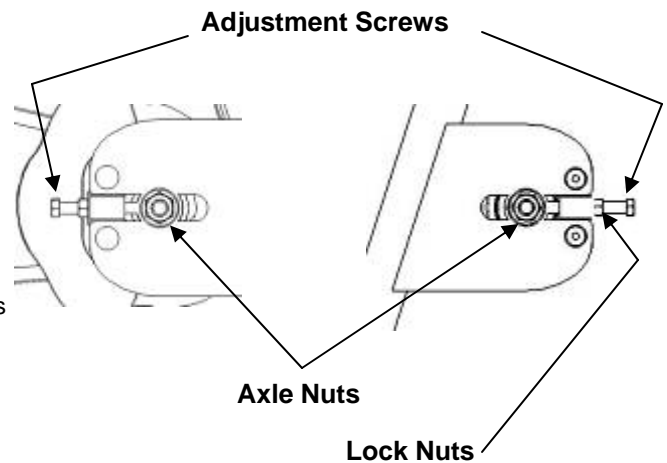

Figure 2
6. While adjusting the chain tension, work on both sides of the flywheel. Adjust the angle of the flywheel so it is straight front to rear and evenly spaced within the frame side to side. (Figure 2)